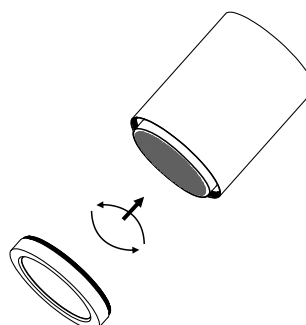

Fig. 6c
3. Screw the front trim back on (Fig. 6c).
3. Revissez la garniture avant (Fig. 6c).